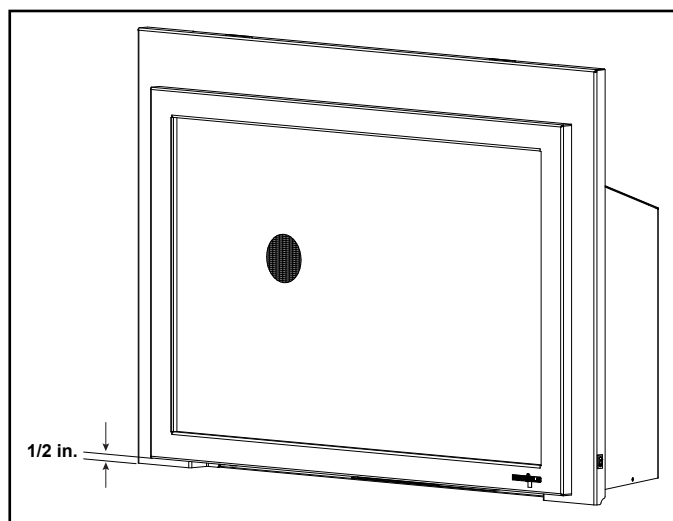

Figure 3.17. Minimum Required 1/2 in. Gap to Bottom of Front
- 1/2 inch gap under the bottom of the front must be maintained. See Figure 3.17.